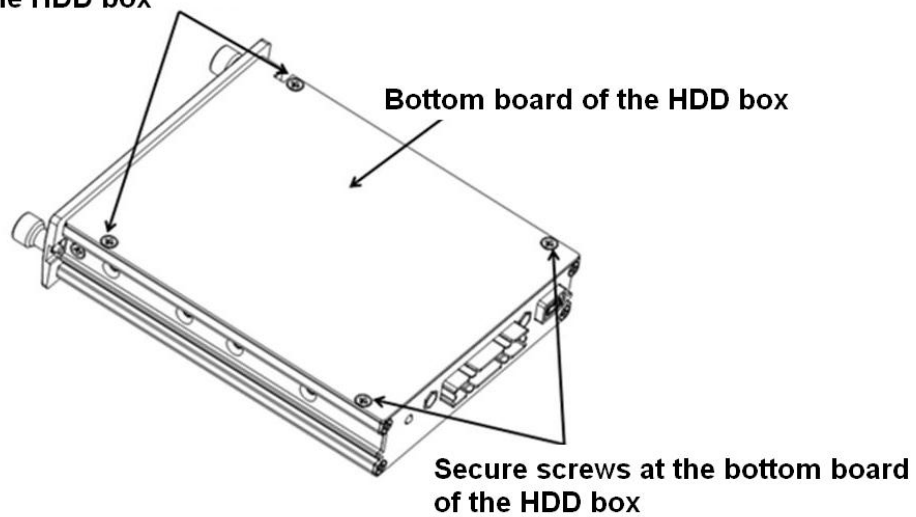

Figure 3-1
1) The HDD box and the parts are shown as below. See Figure 3-1. It includes bottom board of the HDD box and screws.